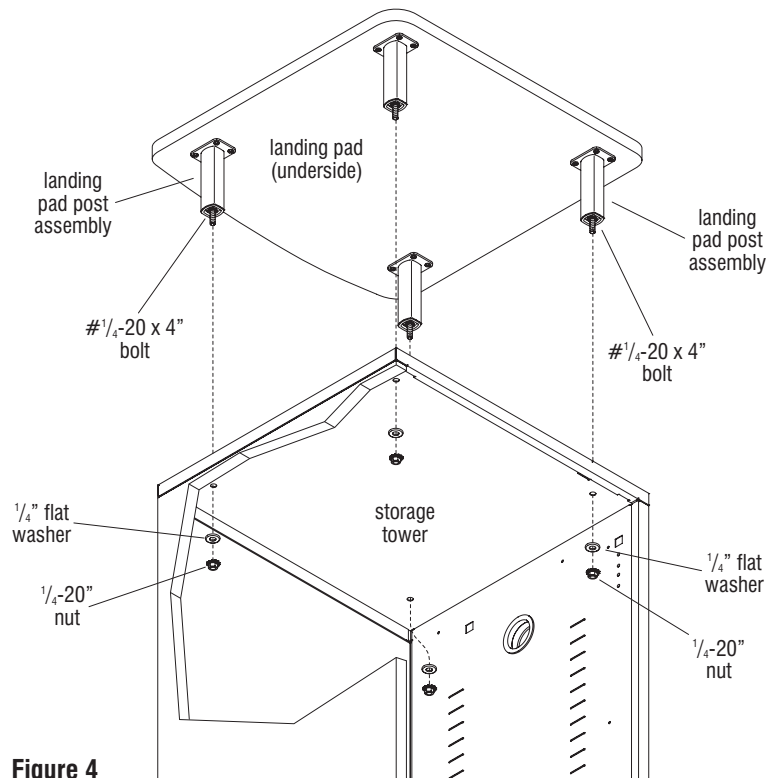

Figure 4
6. Carefully position the landing pad post assemblies with installed bushings, posts & bolts such that the four bolts insert down through the four mounting holes in the top of the tower (Figure 4).
7. From inside the tower, locate the $\frac{1}{4}$ -20 bolts inserted through the top and place a $\frac{1}{4}$ " washer and $\frac{1}{4}$ -20 nut onto each bolt. Tighten nuts to secure landing pad to tower top (Figure 4).